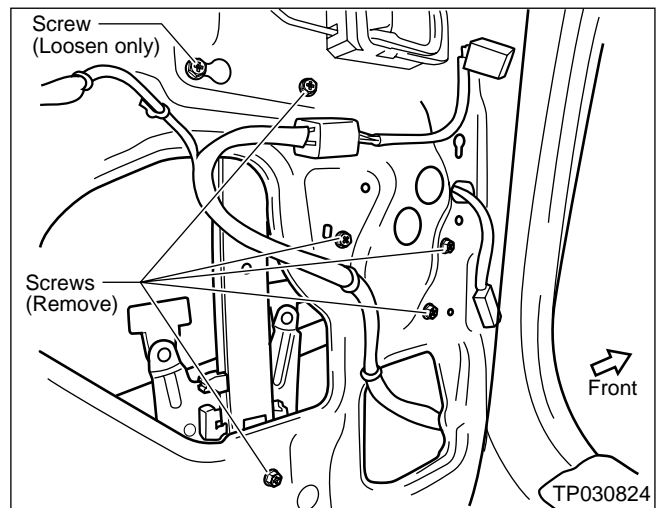

Figure 47
12. Loosen one screw and remove five screws that secure the Window Regulator Assembly (see Figure 47).